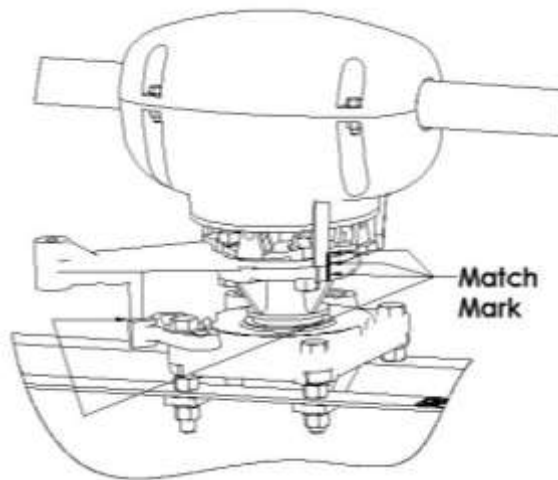
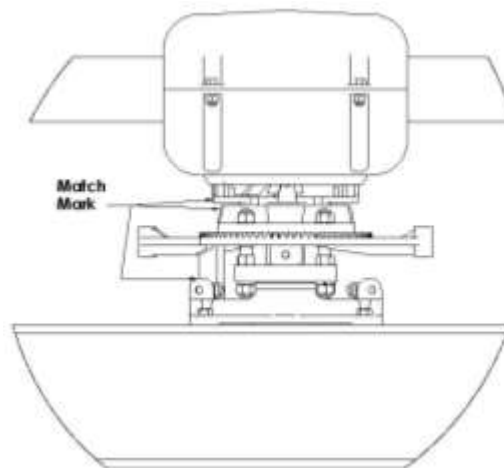

Figure 2: Hinge Assembly Match Mark (115 – 161 kV)
Figure 3: Hinge Assembly Match Mark (230 kV)
2. Using any convenient means, match mark the lower parts of the hinge assembly with the switch arm and the rotating hub to ensure correct re-assembly as shown in Figure 2 and Figure 3. Also match mark one blade tip with its jaw.